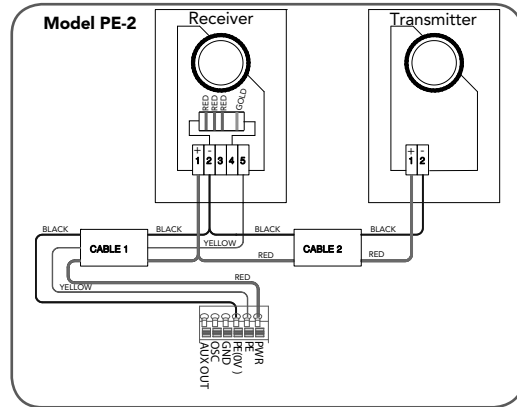

fig 39
- Connect the wires from the PE Beam's wiring harness to the terminal block (**Fig. 39**). The wiring diagram is for Model PE-2 (Order Code 90214).